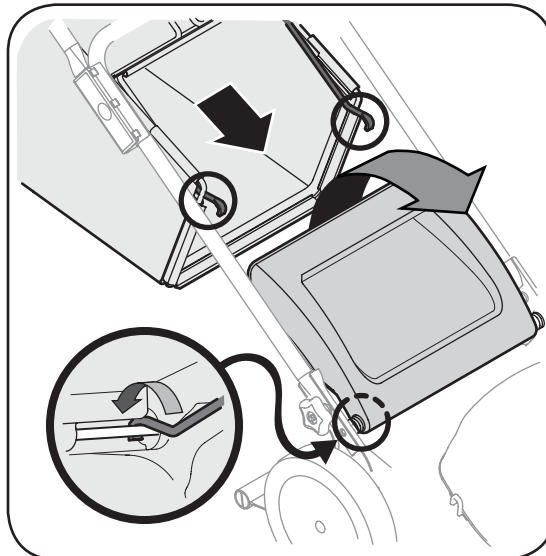

Figure 3-6
- c. Place grass catcher on the pivot rod. Let go of discharge door so that it rests on the grass catcher. See Figure 3-6.